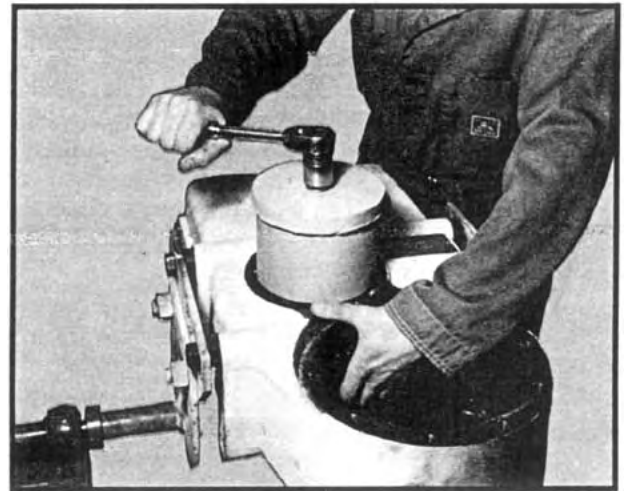

Fig 14
8. To prevent damage, do not allow the bearing cone assembly or the gear to drop inside the case as the shaft is being pulled out. See Figure 14. Remove the shaft, gear, spacer, and bearing cone assembly.